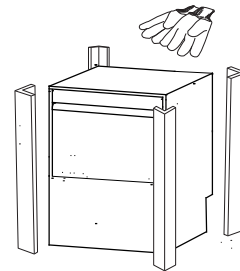

Fig.1
- 1- Wear protective gloves to unpack the appliance from the boxing. (Fig. 1)